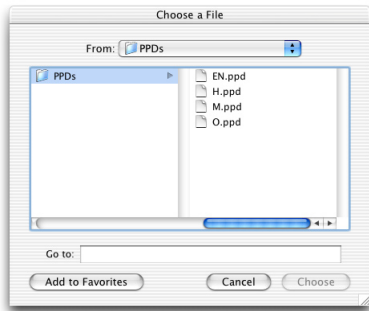

Figure 6—Select a PPD
7. Use the **Printer Model** drop-down menu to select **ONYX Graphics**, and then choose the **Model Name** that corresponds to the printer name you want to install. If neither **ONYX Graphics** nor the appropriate **Model Name** appears, select **Other** for the **Printer Model**. Next, browse to the **PPDS** from the **RIP-Queue Mac PPD** folder (or from the Mac's hard drive if you copied them there), and select the appropriate **PPD** for your printer from the **Choose a File** dialog (see Figure 6).